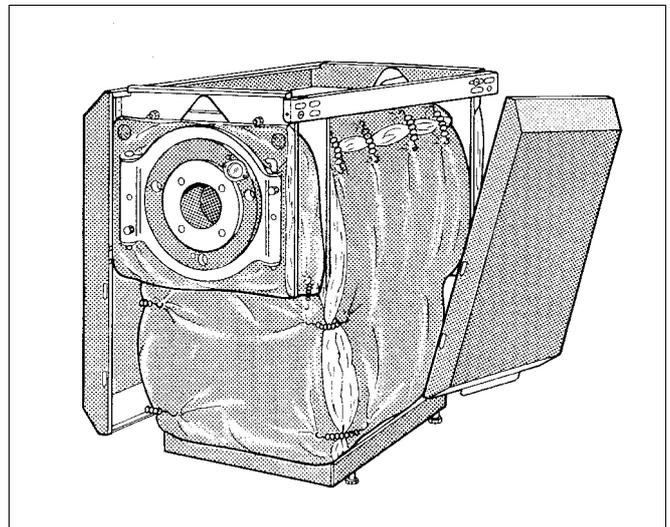

Fig. 9 Insert the side panels
- Insert the side panels with their angles behind the boiler frame (Fig. 9).